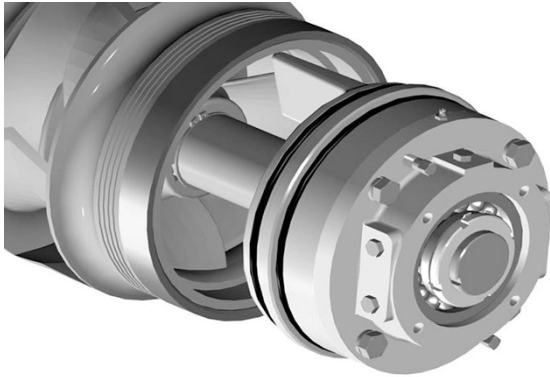

Figure 52: Lockwasher and locknut installed on outboard (opposite of coupling) end of rotating assembly
24. Install the locknut and lockwasher on the outboard (opposite of coupling) end of the shaft. Make certain that the locknut is secure and bend over the tabs on the lockwasher. (see Figure 52)